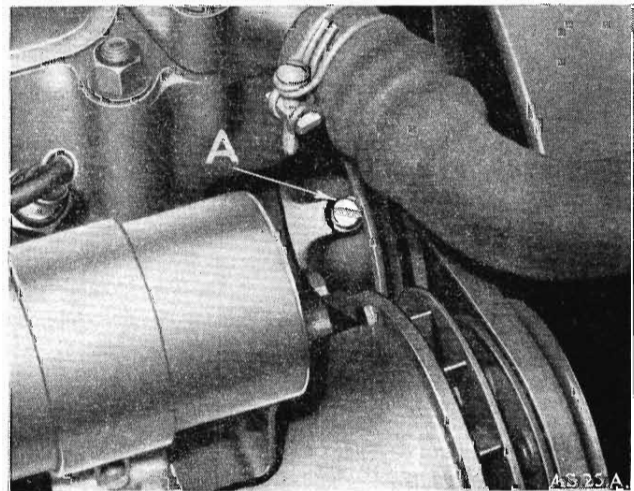

Fig. C.6. Showing location of oiling plug 'A' on the water pump body.
- (3) Remove the water pump oiling plug (A) on the water pump casing and add a small quantity of S.A.E. 140 oil (see Fig. C.6.). The oiling of the pump must be done sparingly, otherwise oil will flow past the bearings on to the face of the carbon sealing ring and impairing its efficiency.
- (4) Check to see that the bearings run freely without excessive end play by spinning the fan.